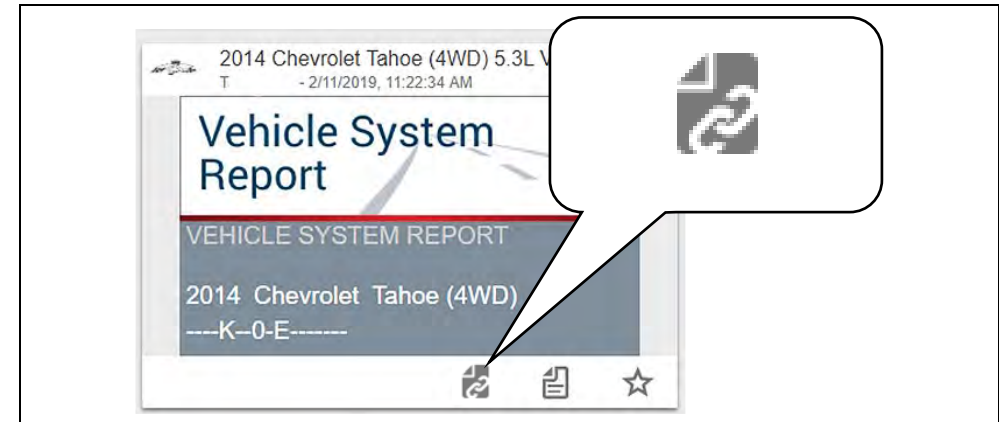

Figure 15-17
1. From Shop Files, select the **Copy icon** (Figure 15-17) on the file card.